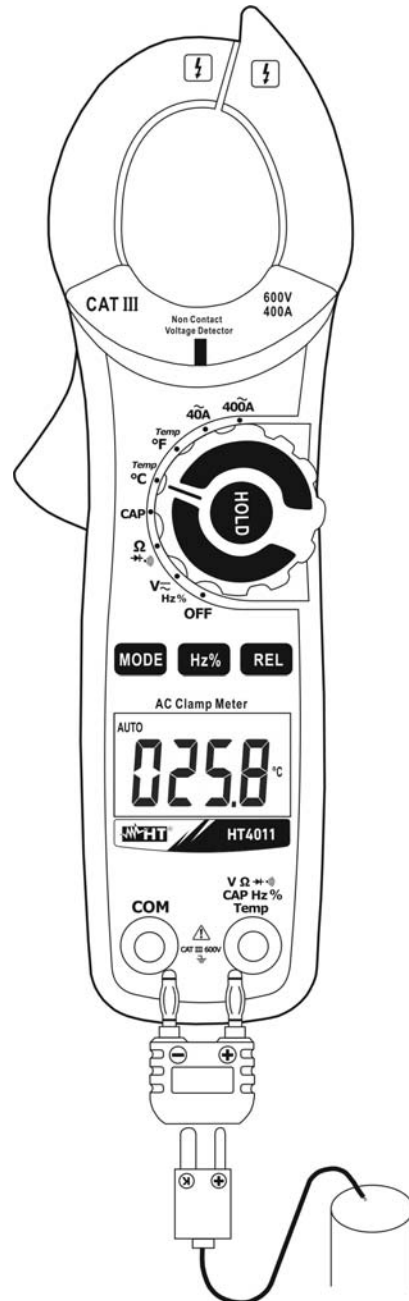

Fig. 8: Use of the clamp for temperature measurement
2. Insert the K wire probe provided into input terminal **VΩ→+•)CAPHz%Temp** and **COM** by means of the relevant adapter, respecting the polarity indicated in Fig. 8. The display shows the value of temperature.